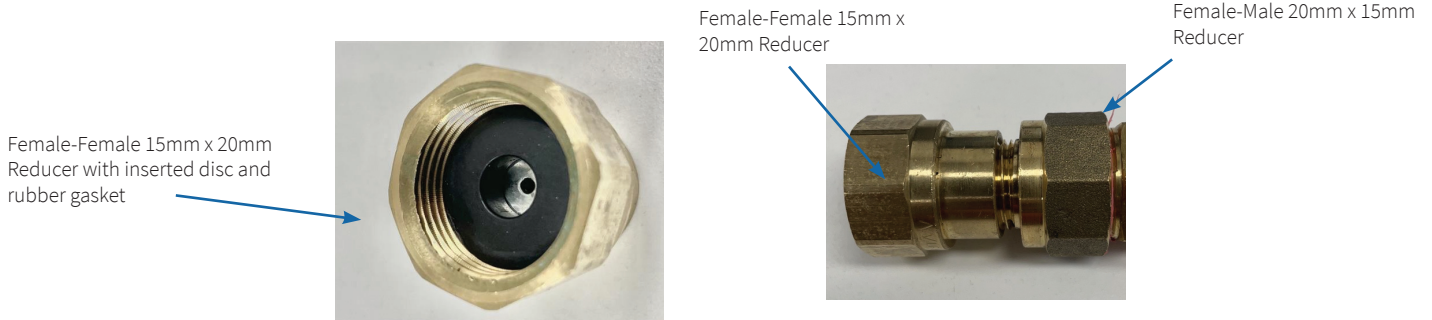

Fig. 3.17B. Left Side view of inserted flow control disc and
3.17B. The reducer assembly should look as shown in Fig. 3.17B and Fig 3.17C below after inserting the disc and gasket.